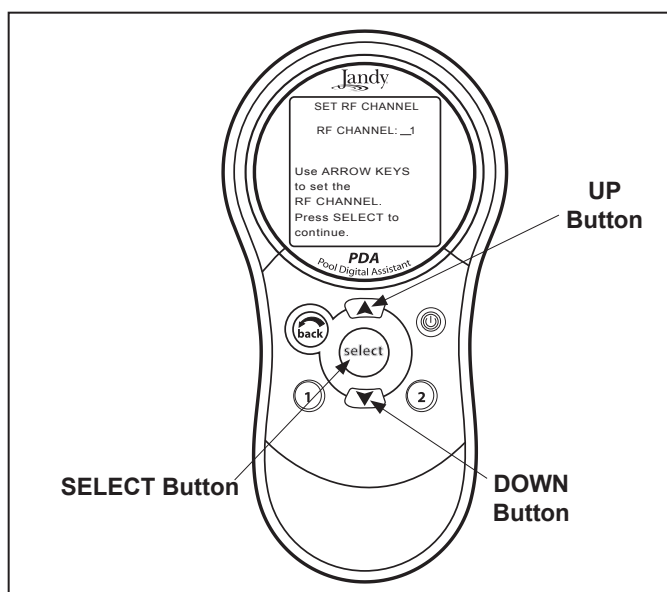

Figure 23. PDA Handheld Remote Channel Setup and Buttons
2. On the PDA handheld remote, press and hold both the UP and DOWN arrows simultaneously for three (3) seconds. After three (3) seconds, the CHANNEL SETUP screen appears (see Figure 23). Select a channel.